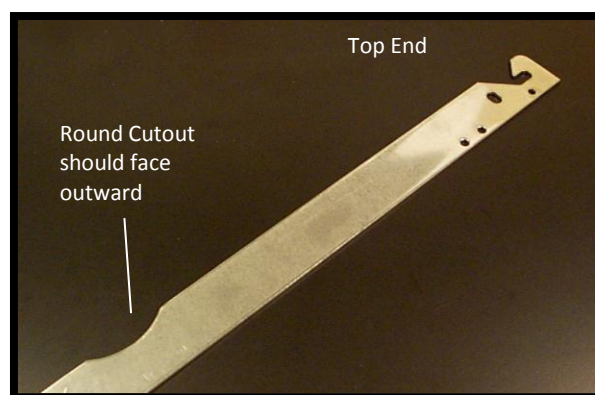

Figure 75: Latch Connector
3. Make sure the latch connector is right side- up (Figure 75).